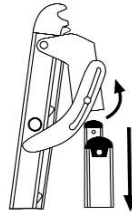

figure 1
1. Remove plastic tips from base of ladder section and set aside. (figure 1)
1. Raise top rung locks and slide ladder sections apart. (fig. 1)